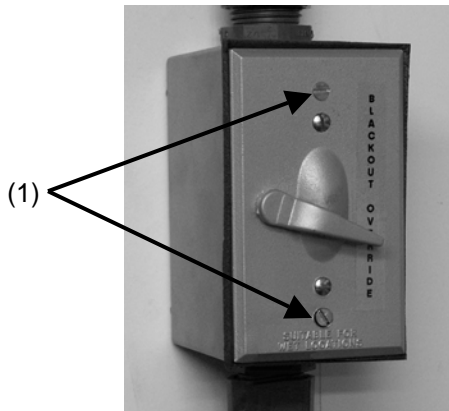

Figure 4-46. Wall switch.
2. Remove two screws (1) and switch cover (Fig. 4-46).